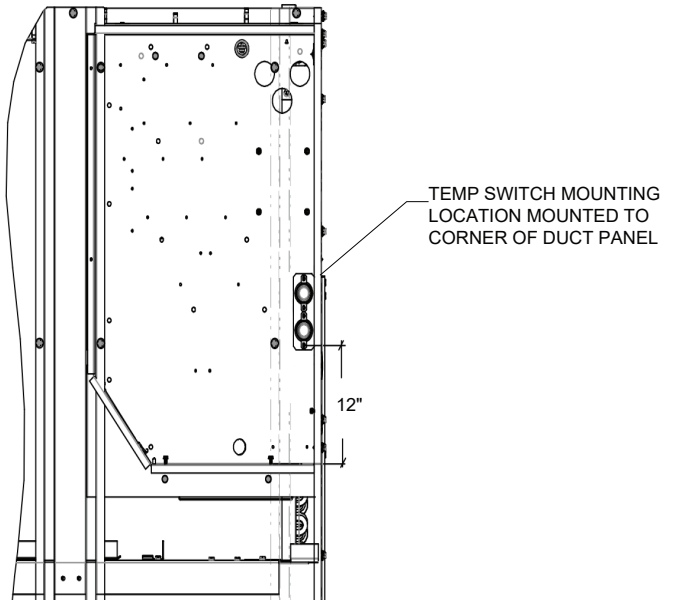

FIGURE 23
4. Pre-drill two holes ($7/32$ ") in the corner of the duct panel at the two pre-formed dimples. If there are no dimples, use the T-Stat Mount as a template. The bottom of the T-Stat Mount should be about 12" above the floor of the control box. See Figure 23.